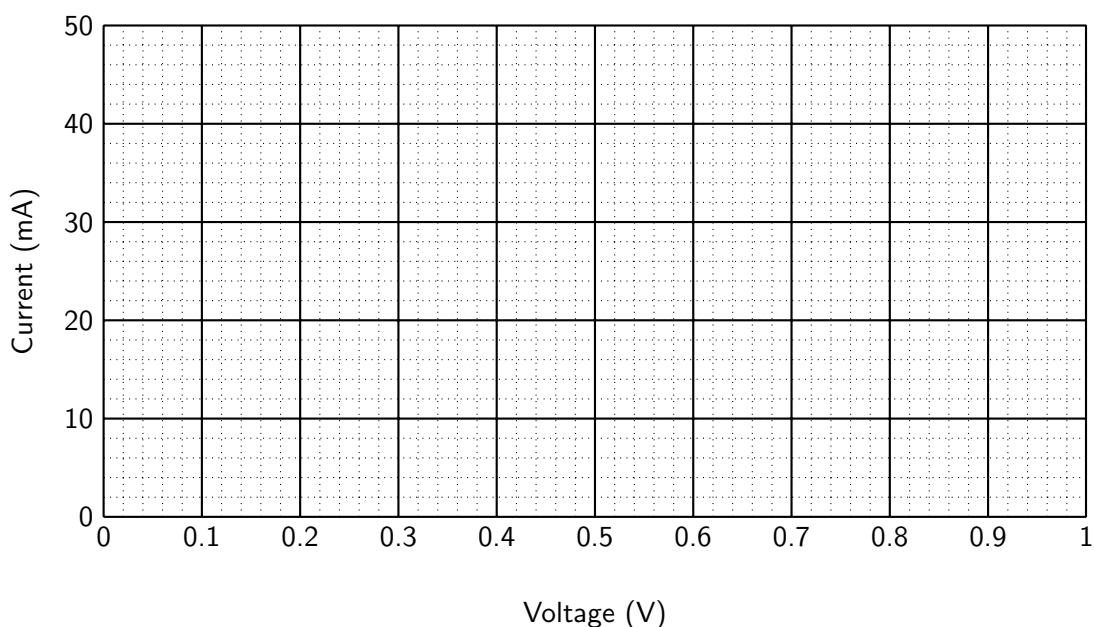

Figure 8: Graph paper for diode I vs V measurements.
- (c) Now power the circuit and plot I vs V on the custom graph paper of Figure 8.